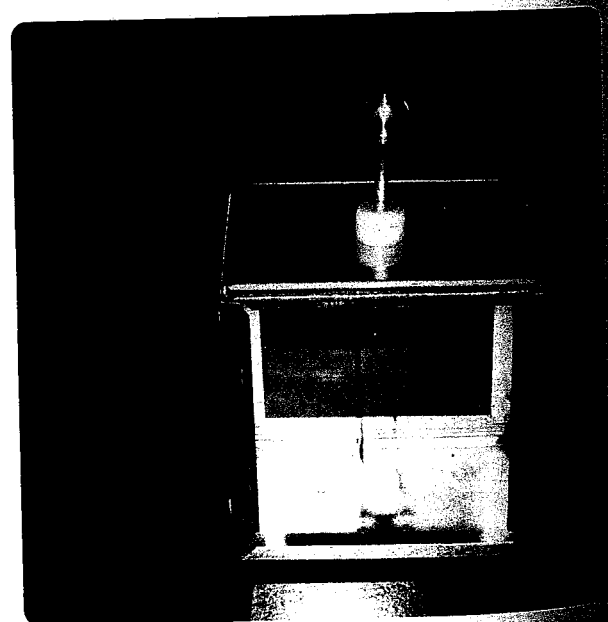

Figure 3 Step 2
2. Negatively charge a vinyl strip using a paper towel. Bring the strip near, without touching, the sides and then the ball on top of the electroscope (Figure 3). Draw a sketch of the electroscope and strip in the position where the leaves were spread out the most.